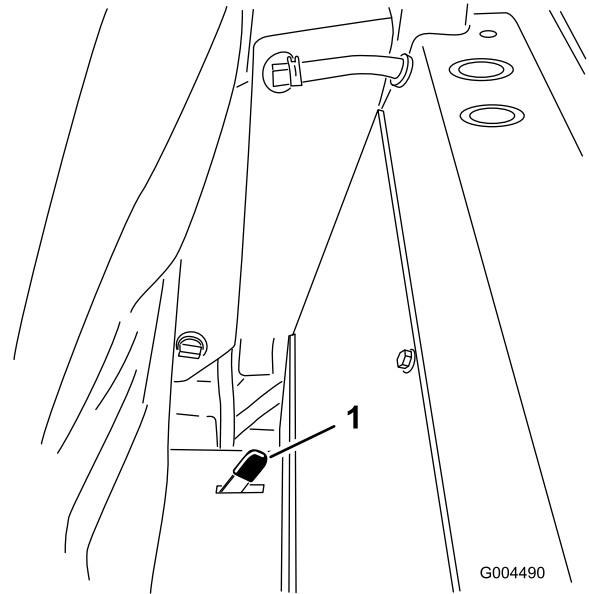

Figure 32
2. Push one of the seat latches, located behind and to the sides of the seat, rearward to unlatch the seat and pull forward on the top of the seat (Figure 32).